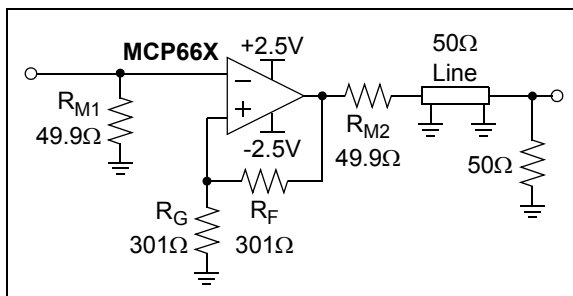

FIGURE 4-10: 50Ω Line Driver.
Differential Gain (DG) and Differential Phase (DP) refer to the non-linear distortion produced by a NTSC (or PAL) video component. Table 1-2 and Figure 2-34 show the typical performance of the MCP661, configured as a gain of +2 amplifier (see Figure 4-10), when driving one back-matched video load (150Ω, for 75Ω cable). Our tests use a sine wave at NTSC's color sub-carrier frequency of 3.58 MHz, with a 0.286V_{P-P} magnitude. The DC input voltage is changed over a +0.7V range (positive video) or a -0.7V range (negative video).
Figure 4-10 shows the MCP661 driving a 50Ω line. The large output current (e.g., see Figure 2-18) makes it possible to drive a back-matched line (R_{M2} , the 50Ω line and the 50Ω load at the far end) to more than ±2V (the load at the far end sees ±1V). It is worth mentioning that the 50Ω line and the 50Ω load at the far end together can be modeled as a simple 50Ω resistor to ground.